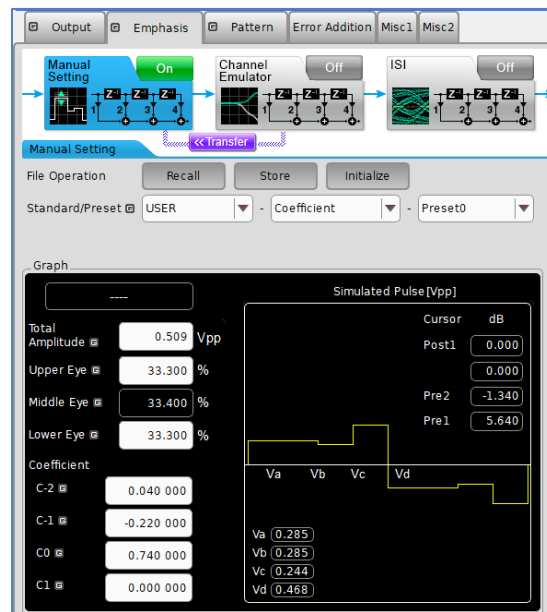

FIGURE 90. MU196020A (SLOT 1, VICTIM) EMPHASIS SETTINGS
- For the “Coefficient” settings, set the “C-2”, “C-1”, “C0” and “C1” values according to the COM calculation results for the “**TXLE_taps**” [C-3 C-2 C-1 C0 C1] information. Figure 90 below shows an example of the coefficient settings for TXLE_taps [0 0.04 -0.22 0.74 0].